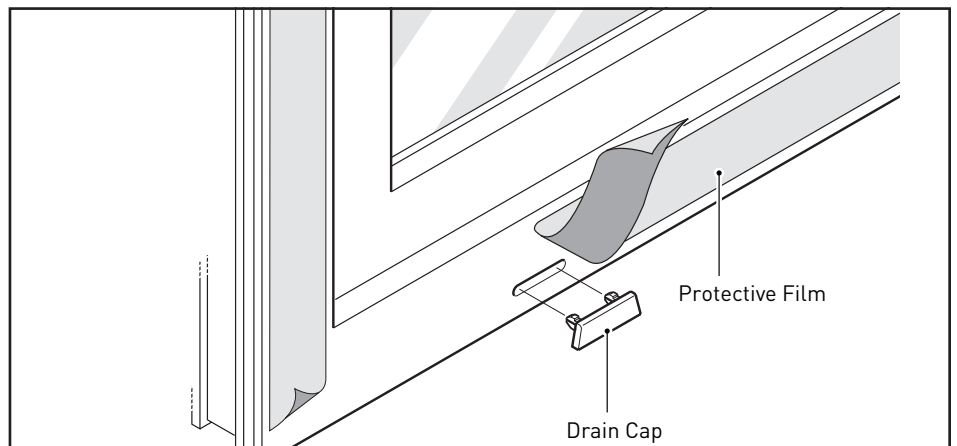

Figure 2-16. Remove the protective film and install the drain caps — exterior view
4. Figure 2-16. Remove the protective film and install the drain caps — exterior view